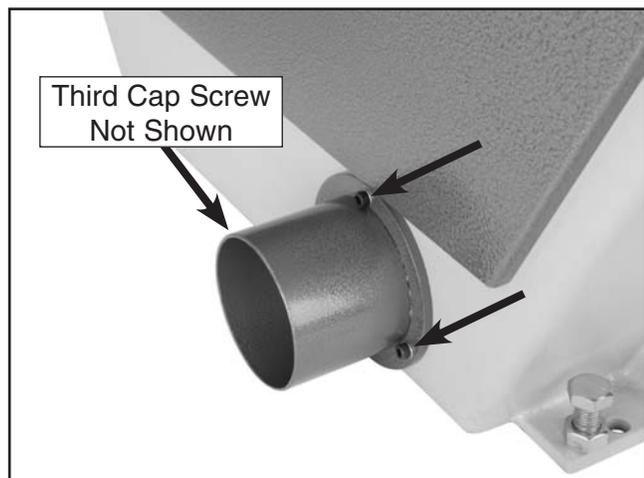

Figure 24. Dust port mounting locations on the lower dust port.
Two dust ports (see **Figures 24 & 25**) are included for connection to your dust collection system. If your dust collection consists of primarily fixed lines, we recommend using small lengths of flexible hose to connect your machine to the fixed line. Note—If your existing dust lines are smaller than 4", upgrade to 4" or larger lines.
1. Use the three cap screws and lock washers to secure the included dust port to the saw base (see **Figure 24**).